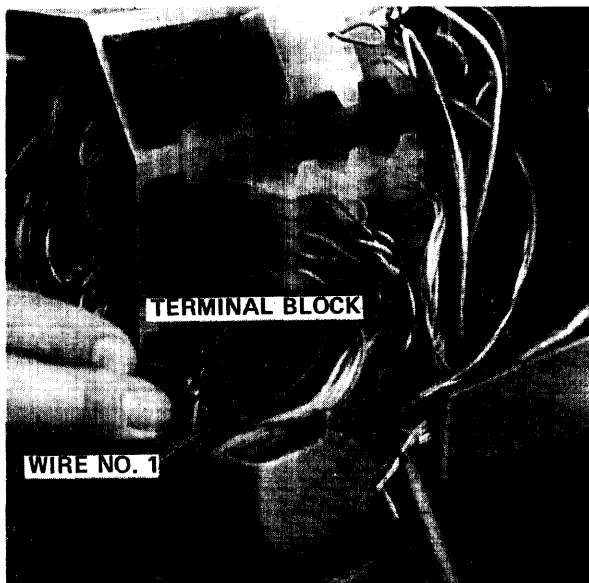

Figure 4. Terminal Block
2. A full duplex hook-up must be created internally. This is accomplished by moving two wires on a terminal strip. (See Figures 4 and 6.)
3. The receiver current level must be changed from 60mA to 20mA. This is accomplished by moving a single wire. (See Figures 4 and 6.)
SEE FIG. 4